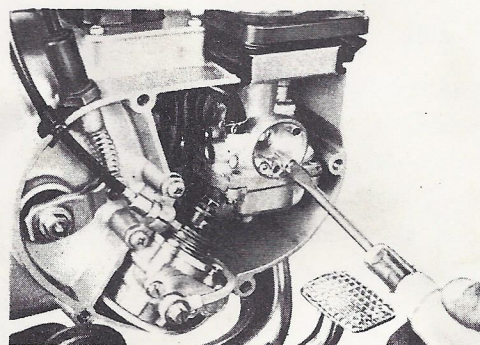

Fig. 3-18-5
- 2 Turn back the air screw slowly until the engine speed reaches its maximum and set the air screw, (Fig. 3-18-5)